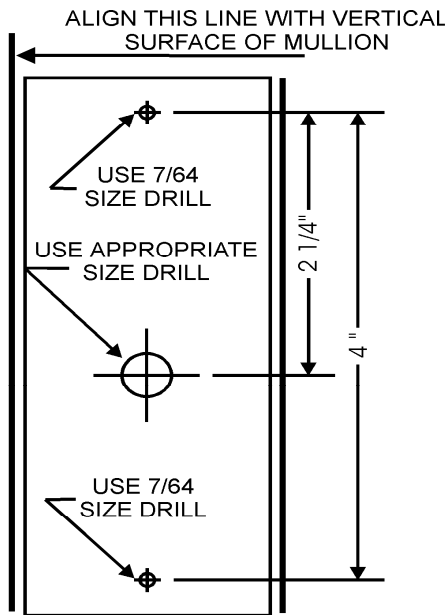

FIGURE 1. Holes Location
1. Position the reader (item b in the Parts List) at the desired location. Observe ADA height requirements. Drill two 7/64 (0.109)-inch holes for the reader screws, and one clearance hole for the cable (see Fig. 1).